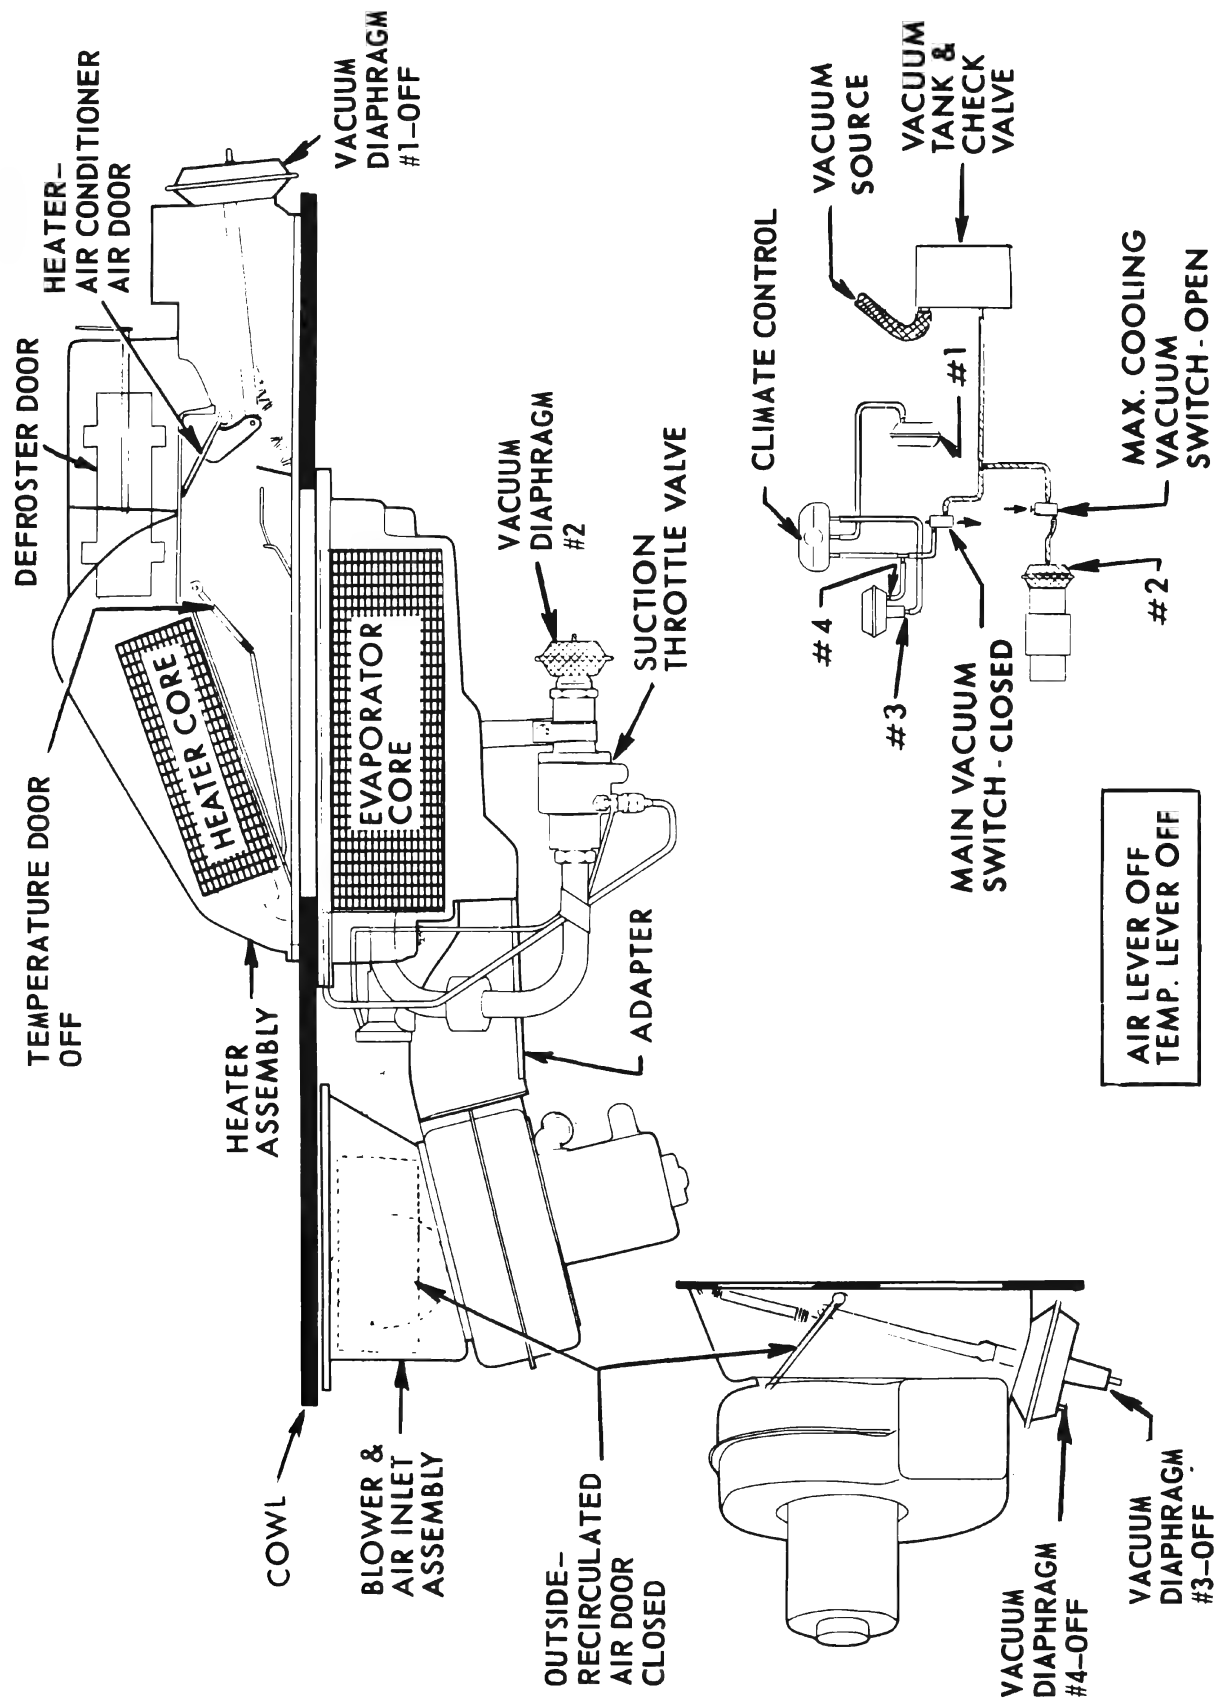
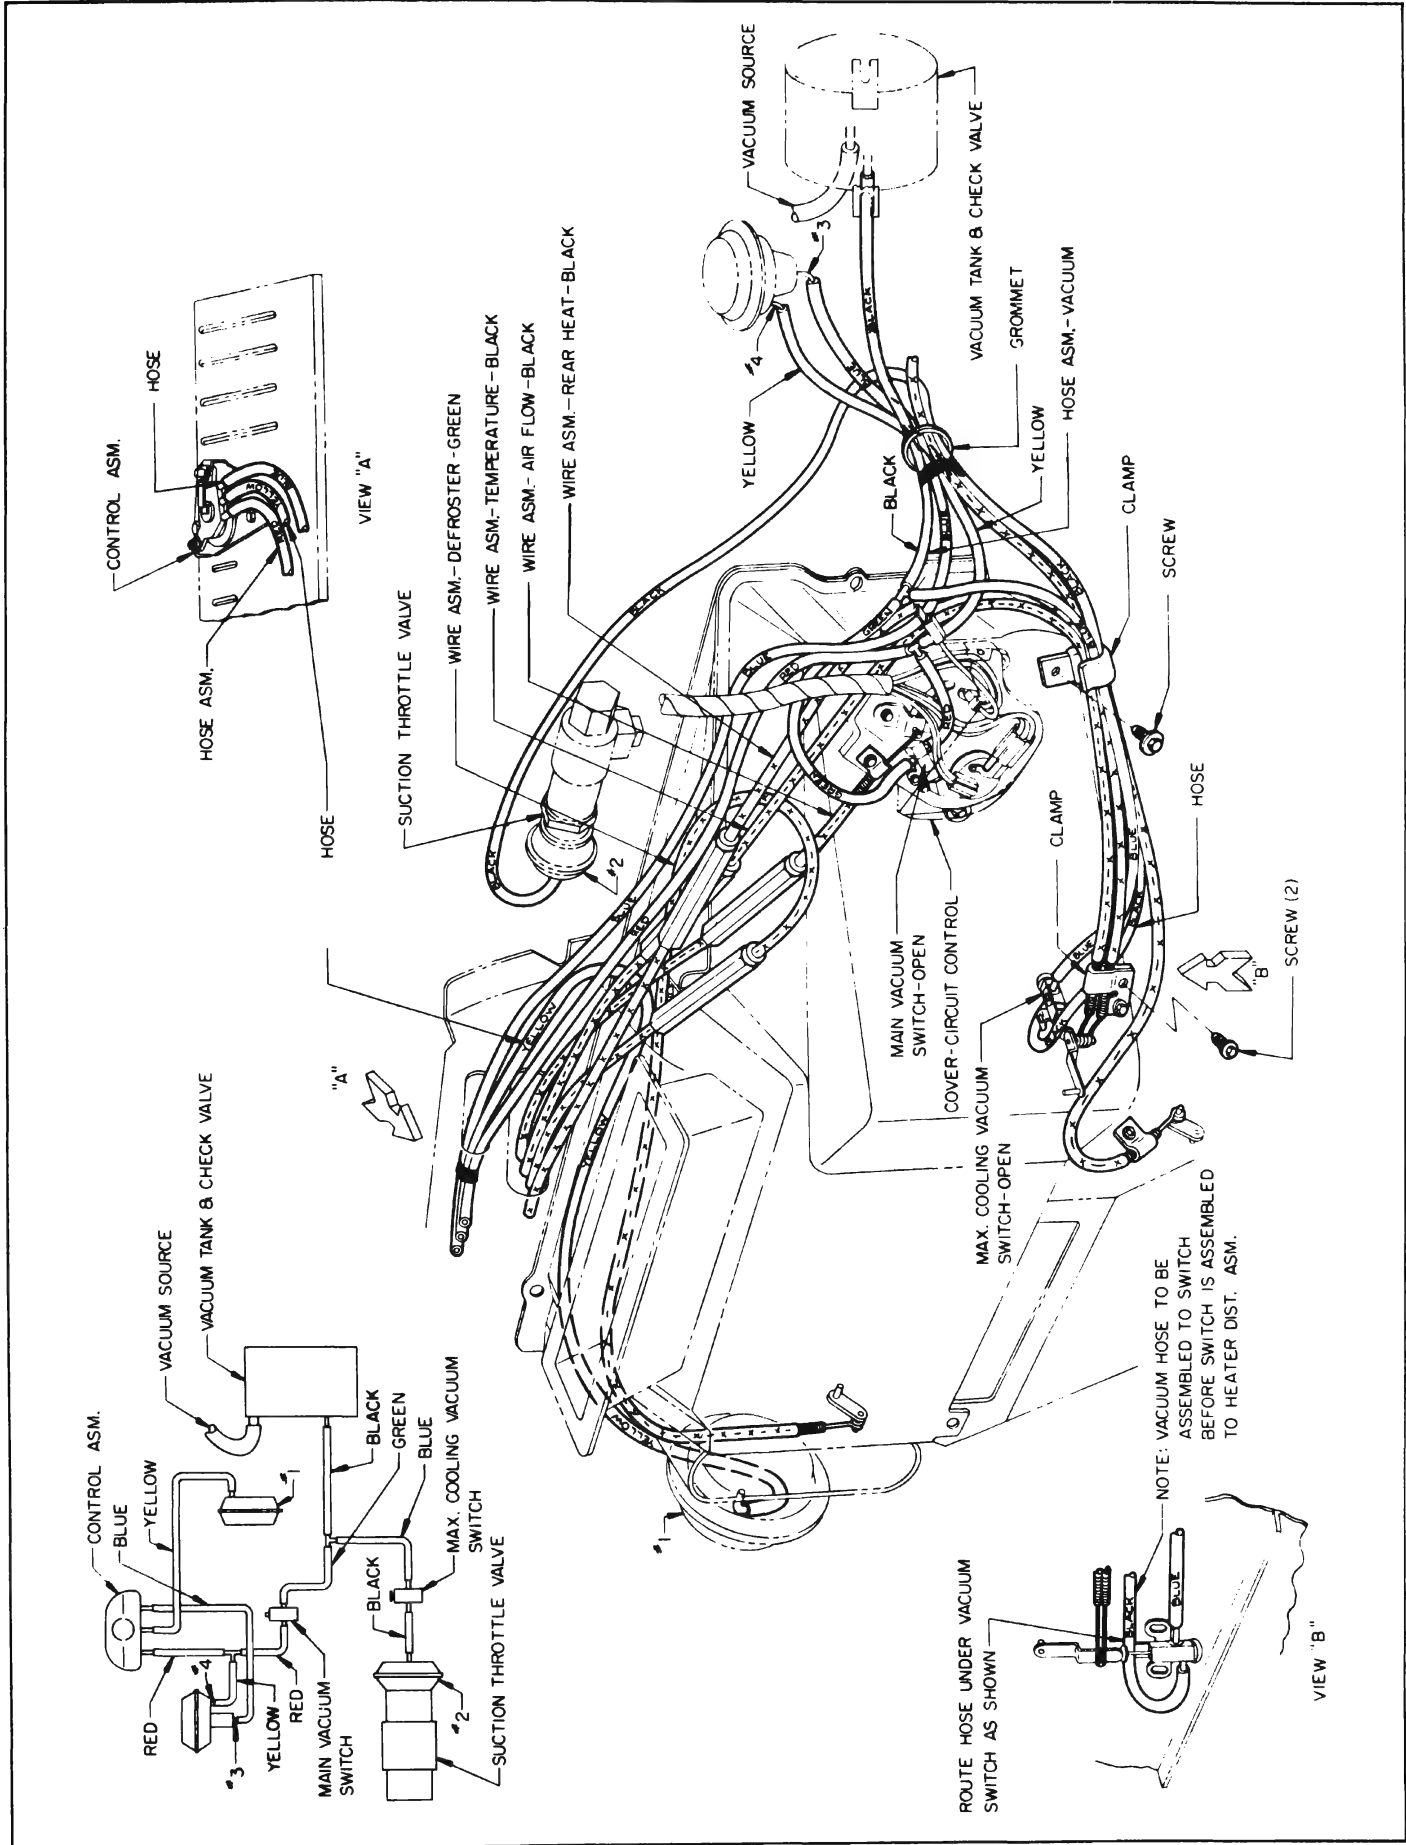

Figure 11-74—Air Conditioner and Heater Off - 4400, 4600 and 4800 Series
Figure 11-78—Vacuum Hose Installation - 4400, 4600 and 4800 Series
2. A heater-air conditioner air door is located in the heater assembly and is operated by the #1 vacuum diaphragm. See Figure 11-74.
The heater-air conditioner air door is normally held in the air conditioner (open) position by a spring attached to its operating lever. See Figure 11-74. When
- When the air lever is in the off position, both the air conditioner and heater are off. The outside-recirculated air door is held closed by its spring and the blower will not be operating. The main vacuum switch is closed. See Figure 11-74. The maximum cooling vacuum switch is open if the TEMP lever is also in the off position. This allows vacuum to be present at the suction throttle valves vacuum diaphragm, even though the air conditioner is not operating.
If the air conditioner-heater air distribution system does not function properly, first check the vacuum hose connections and control wire adjustments. See Figure 11-78. If this does not correct, check for vacuum at vacuum diaphragms, for proper operation of vacuum switches and climate control. See Figures 11-74 through 11-77. Refer to following chart for other possible causes.
To adjust any of the control wires, set control levers in off position. Then rotate the adjuster so that the lever on instrument panel is 1/8" from full off position. See Figure 11-78.